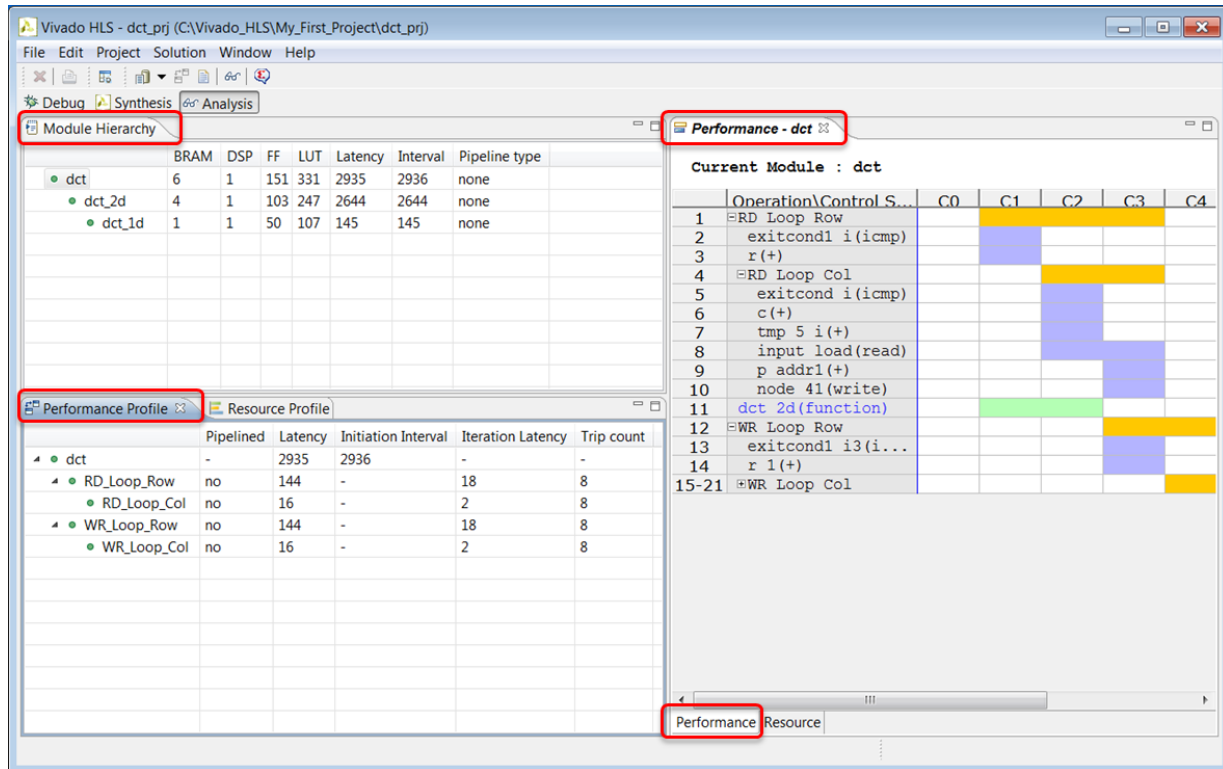

Figure 1-23: Analysis Perspective in the Vivado HLS GUI
- A loop called RD_Loop_Row. In Figure 1-23 the loop hierarchy for loop RD_Loop_Row has been expanded.